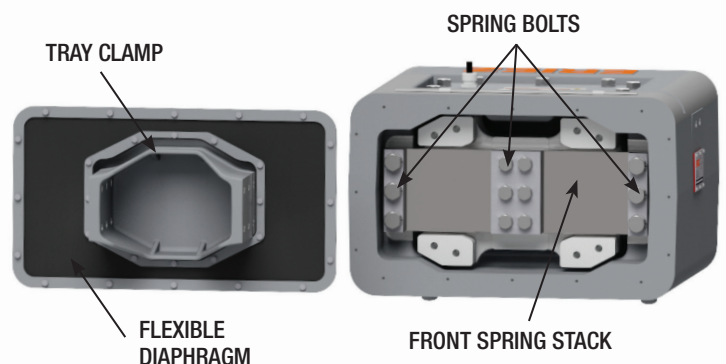

Figure 12
1. Remove diaphragm clamps and rubber diaphragm from front of unit — **Parts 7, 8 and 9 on Parts List (See Figure 12).**